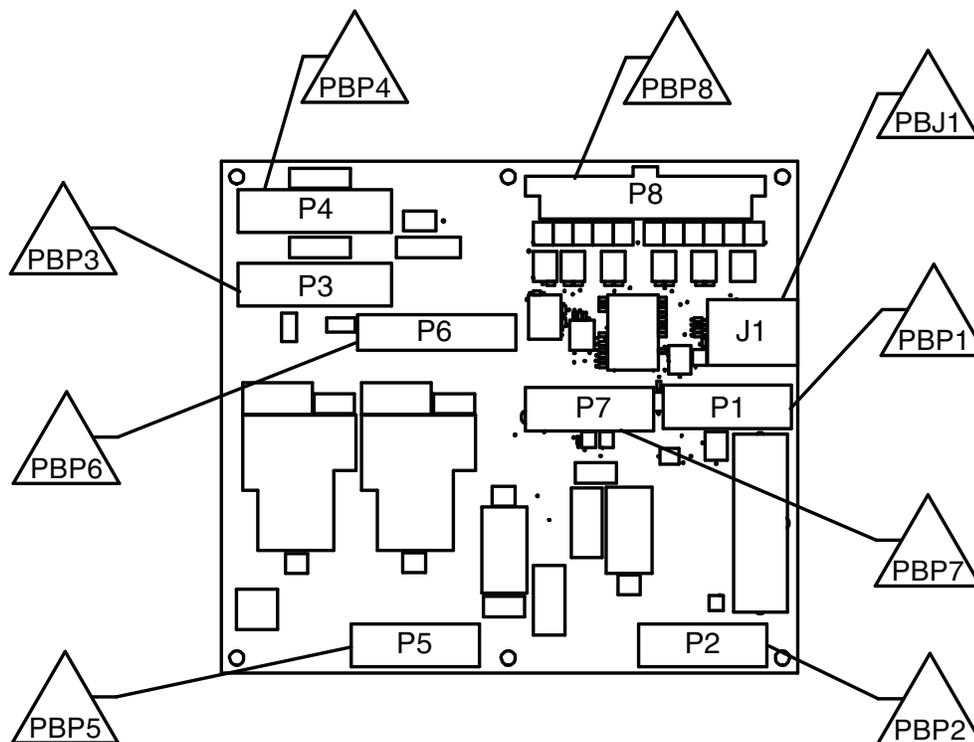

Figure 3-5. Power Board Connector Identification
2. Connect wires as shown in power board wiring diagram. See Figure 3-5.